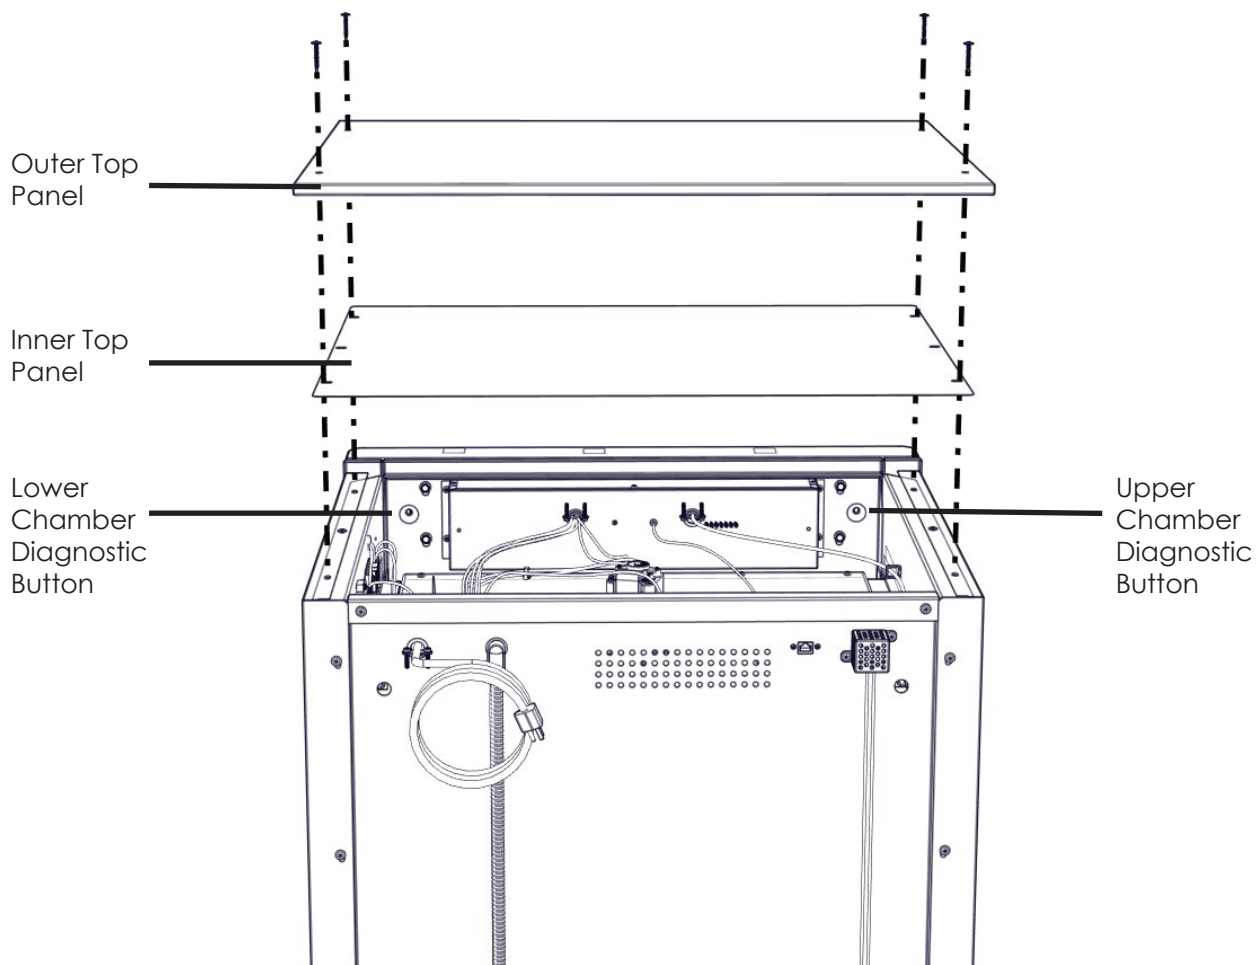

Fig. 1: Remove Outer and Inner Top Panels and locate Diagnostic Button(s)
1. Remove the Outer and Inner Top Panels (Fig.1)
2. Locate the DIAGNOSTIC BUTTON(s) on the back of the Header (Fig. 1).
Note: The example shown in Figure 1 is for a Dual Chamber Warmer. There will be a Diagnostic Button for each individual chamber.